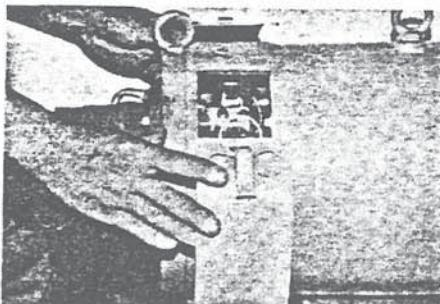

Fig. 8-4
- c) Remove the commutator inspection cover from the motor. (Fig. 8-4)